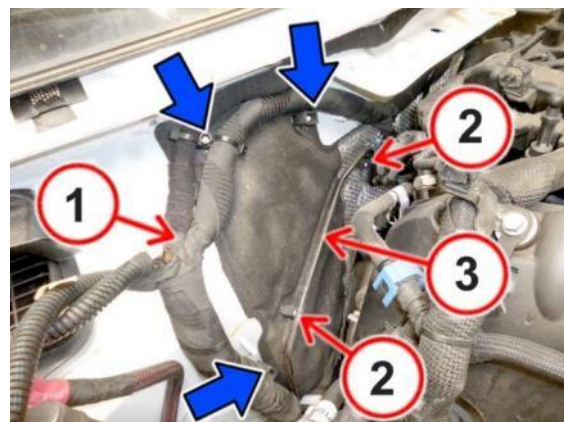

Figure 38 – Brake Fluid Tube
52. Release the wiring harness (1) from the anchor points identified with blue arrows (Figure 38).
53. Release the brake fluid tube (3) from the anchor points (2) (Figure 38).
73. Attach the brake fluid tube (3) to the anchor points (2) (Figure 38).
74. Attach the wiring (1) to the anchor points identified with blue arrows (Figure 38).